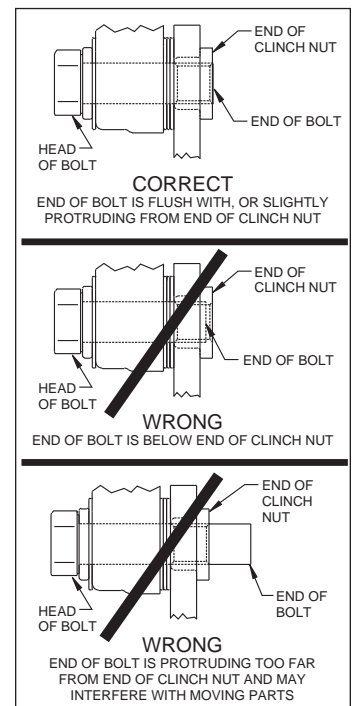

Figure 5. Clinch Nut Engagement Diagram
Assembly Instructions (numbers in parenthesis refer to the parts list, and Figure 4): **CAUTION:** All mounting bolts must fully engage clinch nuts. Be sure to check that all bolts are either flush or protruding through flanged side of clinch nut after shimming, Figure 5.
•Pack the large inner bearing cone (6) with high temperature disc brake bearing grease (available from your local auto parts store) and install into the backside of the hub (8), Photo 3.
•Install the grease seal (7) by pressing into the backside of the hub (8), flush with the end of the hub.
•Pack the small outer bearing cone (9) with high temperature disc brake bearing grease and install into the front side of the hub (8). Slide the hub/rotor onto the spindle. Secure using spindle washer (10) and spindle nut (11). Adjust bearings per OEM specifications. Install spindle nut retainer (12) and a new cotter pin (13), Photo 4.
•Press the dust cap (14) into hub (8), Photo 5.
•**NOTE:** Please reference the caution statement at the beginning of the assembly instructions. Mount the caliper (15) onto the caliper mounting bracket (1) using bolts (17) and washers (16), as shown in Figure 4. Initially place three .035" thick shims (18) on each bolt between the caliper and the bracket, Photo 6. Temporarily tighten the mounting bolts and view the rotor (8) through the top opening of the caliper. The rotor should be centered in the caliper, Photo 7. If not, adjust by adding or subtracting shims between the bracket and the caliper. Always use the same amount of shims on each of the two mounting bolts. **NOTE:** The end of each bolt must be flush with or slightly protruding from the head of the clinch nut, as shown in Figure 5. If necessary place spare shims between washer (16) and caliper mounting ear to achieve the proper clinch nut engagement. Once the caliper alignment and clinch nut engagement are correct, remove the bolts one at a time, apply red *Loctite*® 271 to bolt threads, and torque to 40 ft-lb.